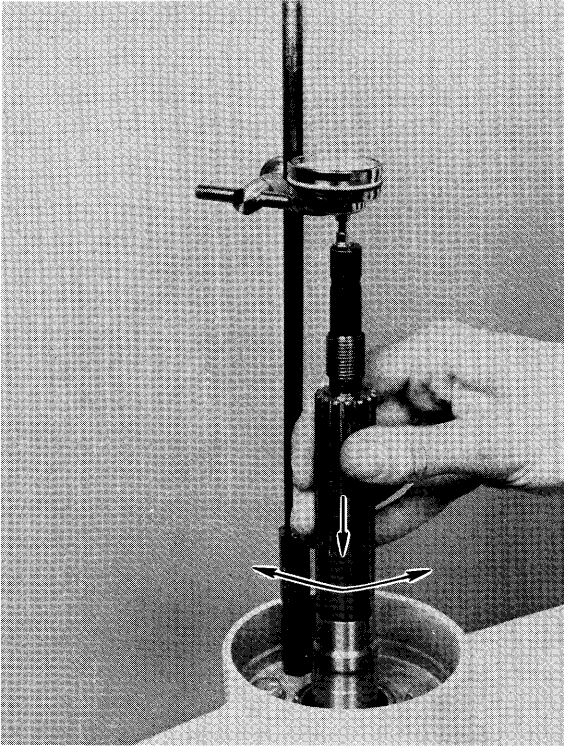

Figure 31—Seating Forward Bearing
- K. Push down on prop shaft and rotate shaft back and forth to remove all forward bearing clearance, as shown in figure 31.